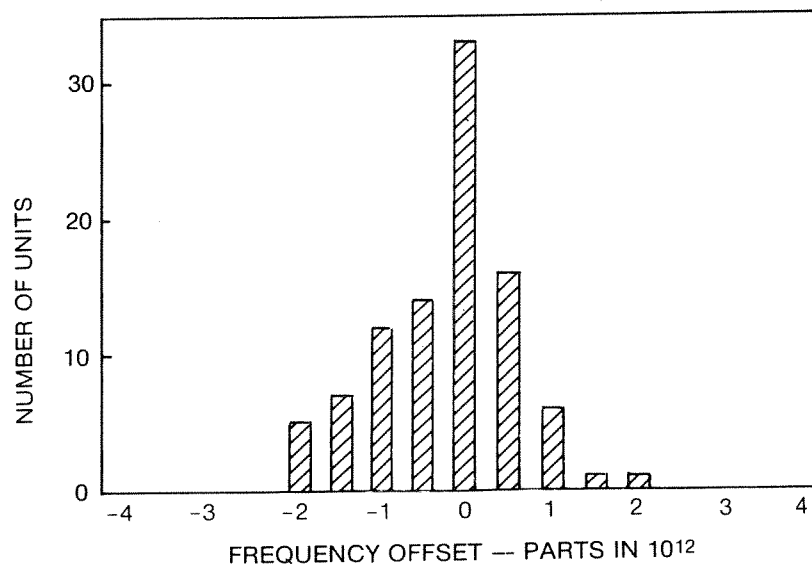

Figure 1-2. Frequency of Independently Aligned 5061A
- (1) See definitions, page 1-5
- (2) See Figure 1-2
- (3) With 10638A Degausser
- (4) Use 60 second time constant for increased short-term stability in controlled environments.
- (5) Over any  $\pm 2.5^\circ\text{C}$  Range at any temperature between 15 and 35°C
- (6) With degaussing — Retrace is less than  $\pm 2 \times 10^{-12}$  without degaussing
- (7) For values of  $\tau(s) > 10^4$  seconds, instruments are not subjected to frequency stability testing on a regular basis. This portion of the curve (i.e.,  $\tau(s) > 10^4$  seconds) provides information useful in formulating applications for the HP 5061B.
<p>Intrinsic Reproducibility</p> <p>The intrinsic reproducibility of the 5061B (see Figure 1-2) is the measure of the repeatability from one independently aligned unit to another. The small spread indicates that any HP 5061B with an Option 004 High Performance Tube will produce a frequency within <math>\pm 3 \times 10^{-12}</math> without calibration. The data was</p>	<p>See "Statistics of Atomic Frequency Standards" by David W. Allan, Proceedings of IEEE, Feb. 1966. P. 221, and HP Application Note 116 for measurement details.</p>